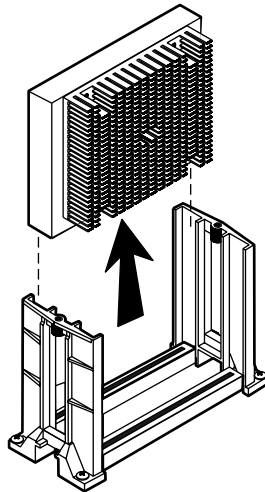

Figure 10: Removing the Processor Cartridge
5. Lift the processor cartridge straight up and away from the system board. See Figure 10.